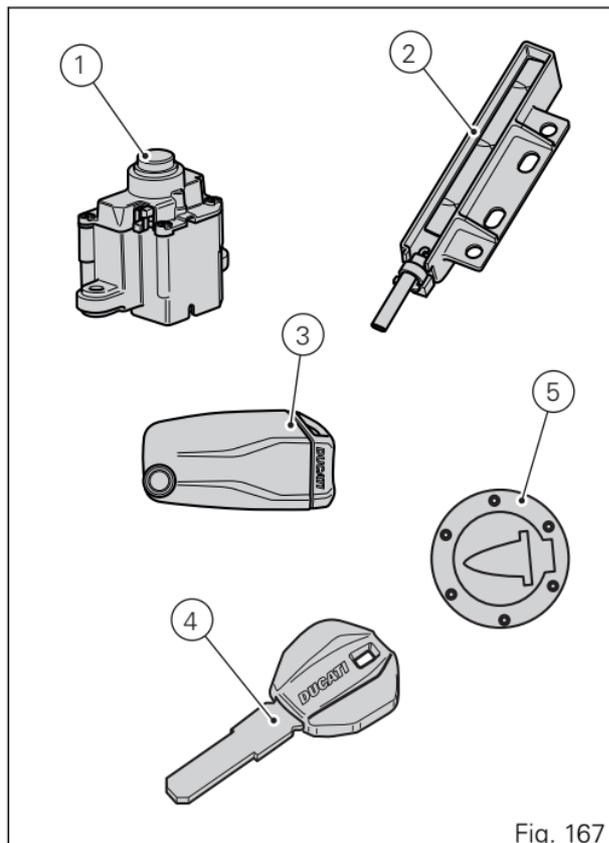

Fig. 167
The "Hands free" unit (1, Fig. 167) is located on tank front side and can be accessed by pulling up and removing protection cover (8).
Key-On can be performed by pressing button (6) on the handlebar and with the presence of the active key (3, Fig. 167).
Key-Off can be performed by pressing the button (6) on the handlebar. It can also be performed without the key (3, Fig. 167) only if motorcycle speed is equal to zero.
Key-On can be performed by pressing button (7) on the Hands free unit (1, Fig. 167) and with the presence of the active key (3, Fig. 167).
Key-Off can be performed by pressing button (7) on the Hands free lock (1, Fig. 167), also without the key (3, Fig. 167).
Key-On can be performed by pressing the grey button (6) on the handlebar and with the presence of the passive key (4, Fig. 167).
Key-Off can be performed by pressing the grey button (6) on the handlebar. It can also be performed without the key (4, Fig. 167) only if motorcycle speed is equal to zero.
Key-On can be performed by pressing button (7) on the Hands free lock and with the presence of the passive key (4, Fig. 167).
Key-Off can be performed by pressing button (7) on the Hands free lock (1, Fig. 167), also without the key (4, Fig. 167).
Key-On can be performed by pressing button (7) on the hands free lock (1, Fig. 167) without the presence of the keys (3) and (4) and entering the pin code on the instrument panel.